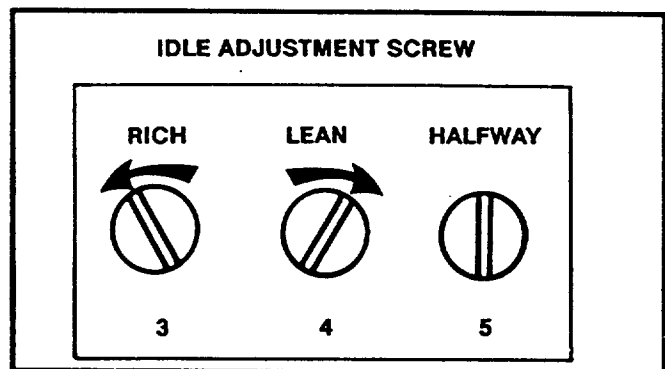

FIGURE 37
- Turn idle adjustment needle slowly open, counterclockwise, until motor loses power and begins to roll due to an over-rich mixture. Note this position (Figure 37).